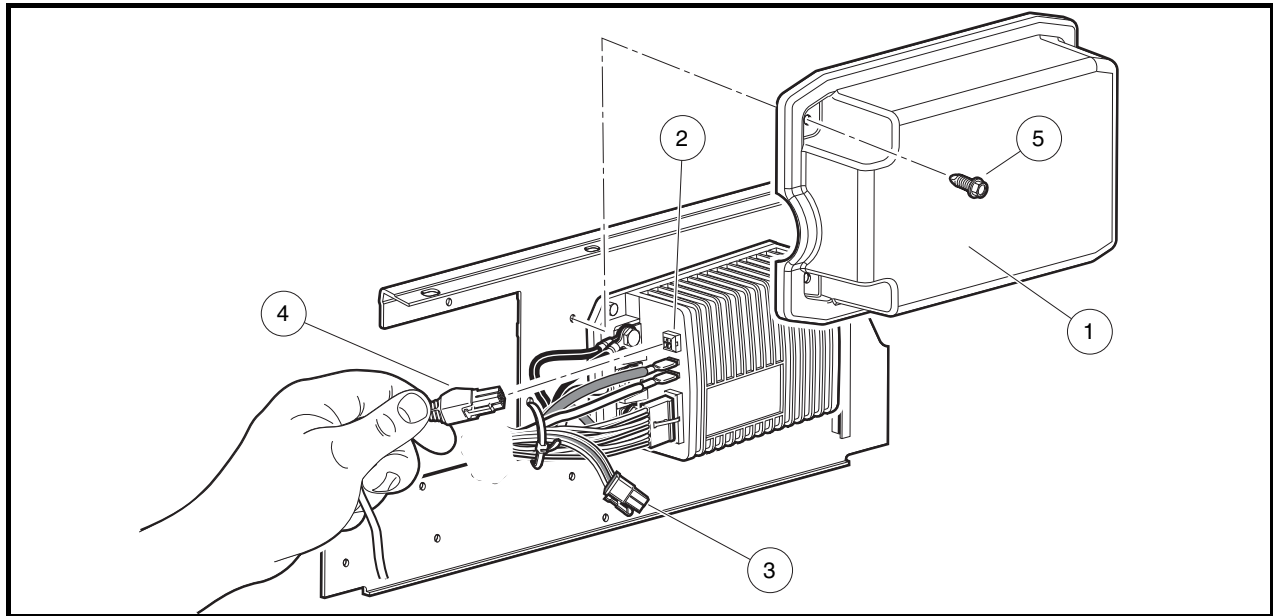

Figure 12-10 IQ System Component Mounting Plate
- 4.2. Remove the two screws (5) securing the controller cover (1) to the component mounting plate (**Figure 12-10, Page 12-20**).
- 4.5. Connect the other end of the handset cord (without the adapter) (4) to the four-pin connector of the speed controller (2) (**Figure 12-10, Page 12-20**).